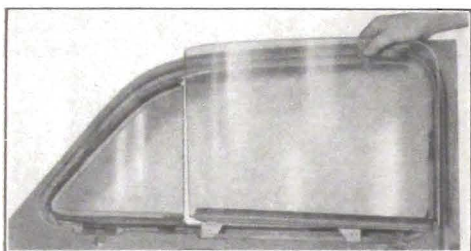

Fig. 1-60. Front Door Glass Removal
- 7. Lift glass; slide forward and tip inward at the top to clear the door. See Fig. 1-60. Glass can then be slid out of the window aperture.
- 6. Lift glass, slide forward and tip inward at the top to clear the door. Fig. 1-60. It can then be slid out of the window aperture.